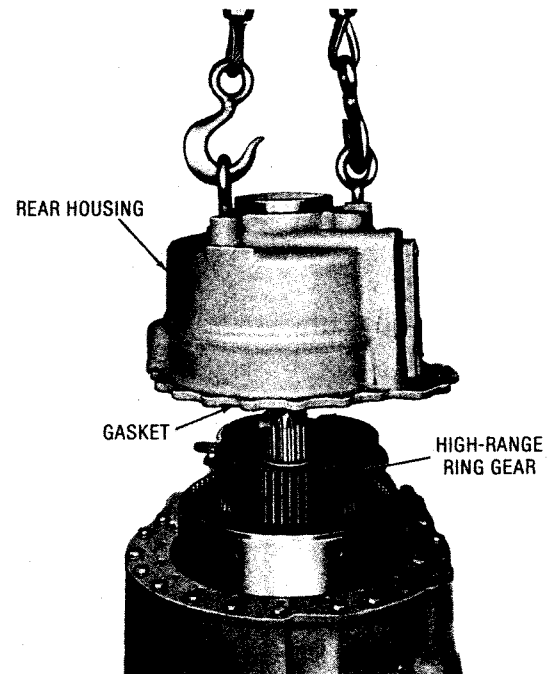

Fig. 7-47. Installing transmission rear housing assembly (TRT-1)
(9) Install the rear housing gasket onto the rear housing, using oil-soluble grease to retain it. Install the rear housing onto the transmission (fig. 7-47).